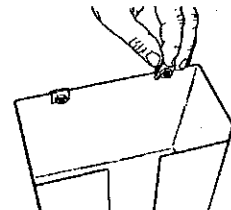

Fig.A-6
9. Slip a Tinnerman nut (10) over each hole in the belt and pulley guard (8), making sure that the nut side faces the inside of the guard. See Fig.A-6.